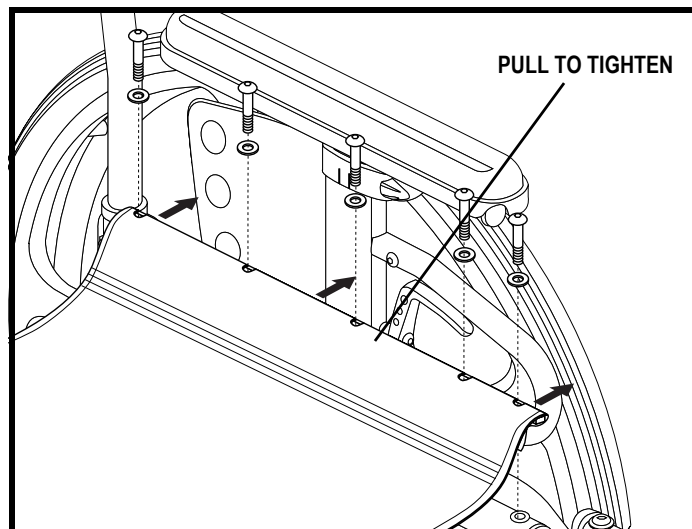

Figure 47. Seat Tension Adjustment
1. Loosen the screws that attach the seat to the side rail on the left side (side with hook and loop fastener). See figure 47.